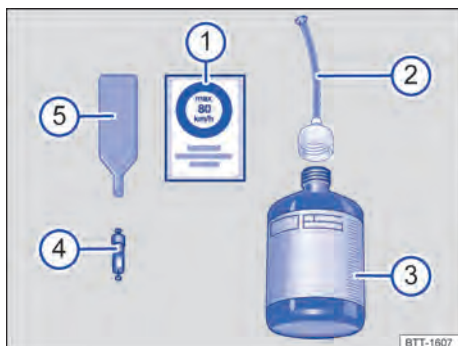

Fig. 218 Contents of the breakdown set (illustration).
- ① Sticker with the maximum permitted speed "max. 80 km/h" or "max. 50 mph".
- ② Filler hose with plug.
- ③ Tyre filler bottle.
- ④ Spare valve core.
- ⑤ Valve core extractor.
i There is a slot for the valve core on the lower end of the valve core extractor → Fig. 218 ⑤. This is required for extracting and fitting the tyre valve core. This also applies to the spare valve core ④.
1. Take the sticker from the breakdown set → Fig. 218 ① and stick it on the dash panel within the driver's field of vision.
3. Use the valve core extractor → Fig. 218 ⑤ to unscrew the valve core from the tyre valve. Place the core on a clean surface.
4. Shake the tyre filler bottle → Fig. 218 ③ vigorously to and fro several times.
5. Screw the tyre sealant tube → Fig. 218 ② tightly onto the tyre filler bottle in a clockwise direction. The plastic foil on the plug is pierced automatically.
6. Remove the plug from the filler hose → Fig. 218 ② and place the open end fully on the tyre valve.
9. Use the valve core extractor → Fig. 218 ⑤ to screw the valve core back into the tyre valve.